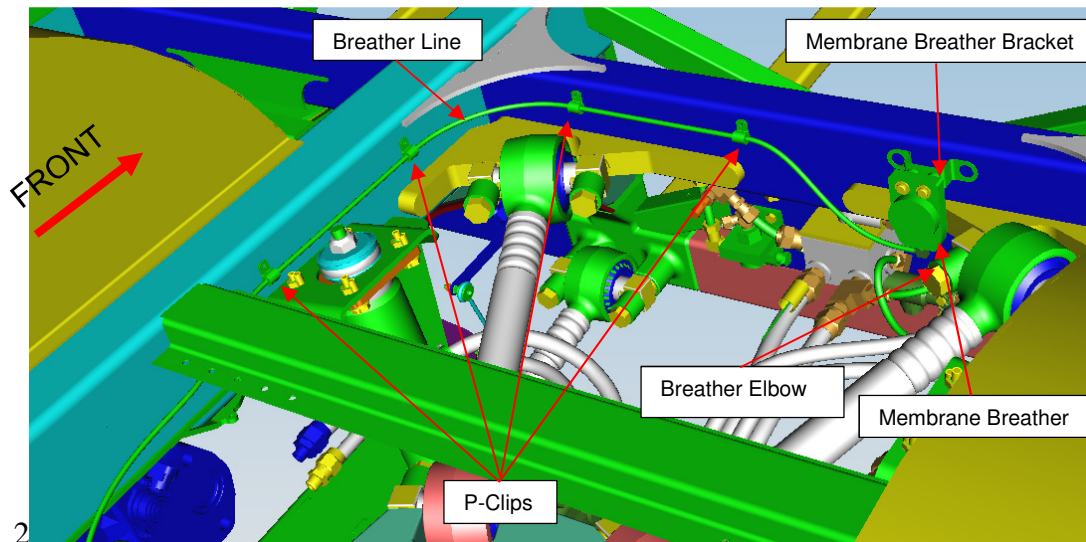

Figure 4: Rear Axle Breather Installation.
- e. Install the 90 deg breather elbow NF P/N 392738 on the breather then attach the breather line to the elbow. Figure 4.
- f. Route the breather line across the chassis cross member towards the street side then rearward above the upper mount for the forward street side shock absorber. Secure the breather with four p-clamps NF P/N 092578 and four screws NF P/N 34S00010. Figure 4.